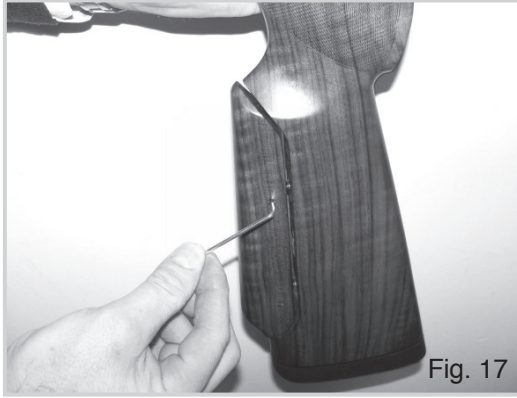

Fig. 17
1. Using the appropriate ALLEN wrench, loosen the screws - A - so the cheek piece can slide free of the butt stock (**FIG.17**).